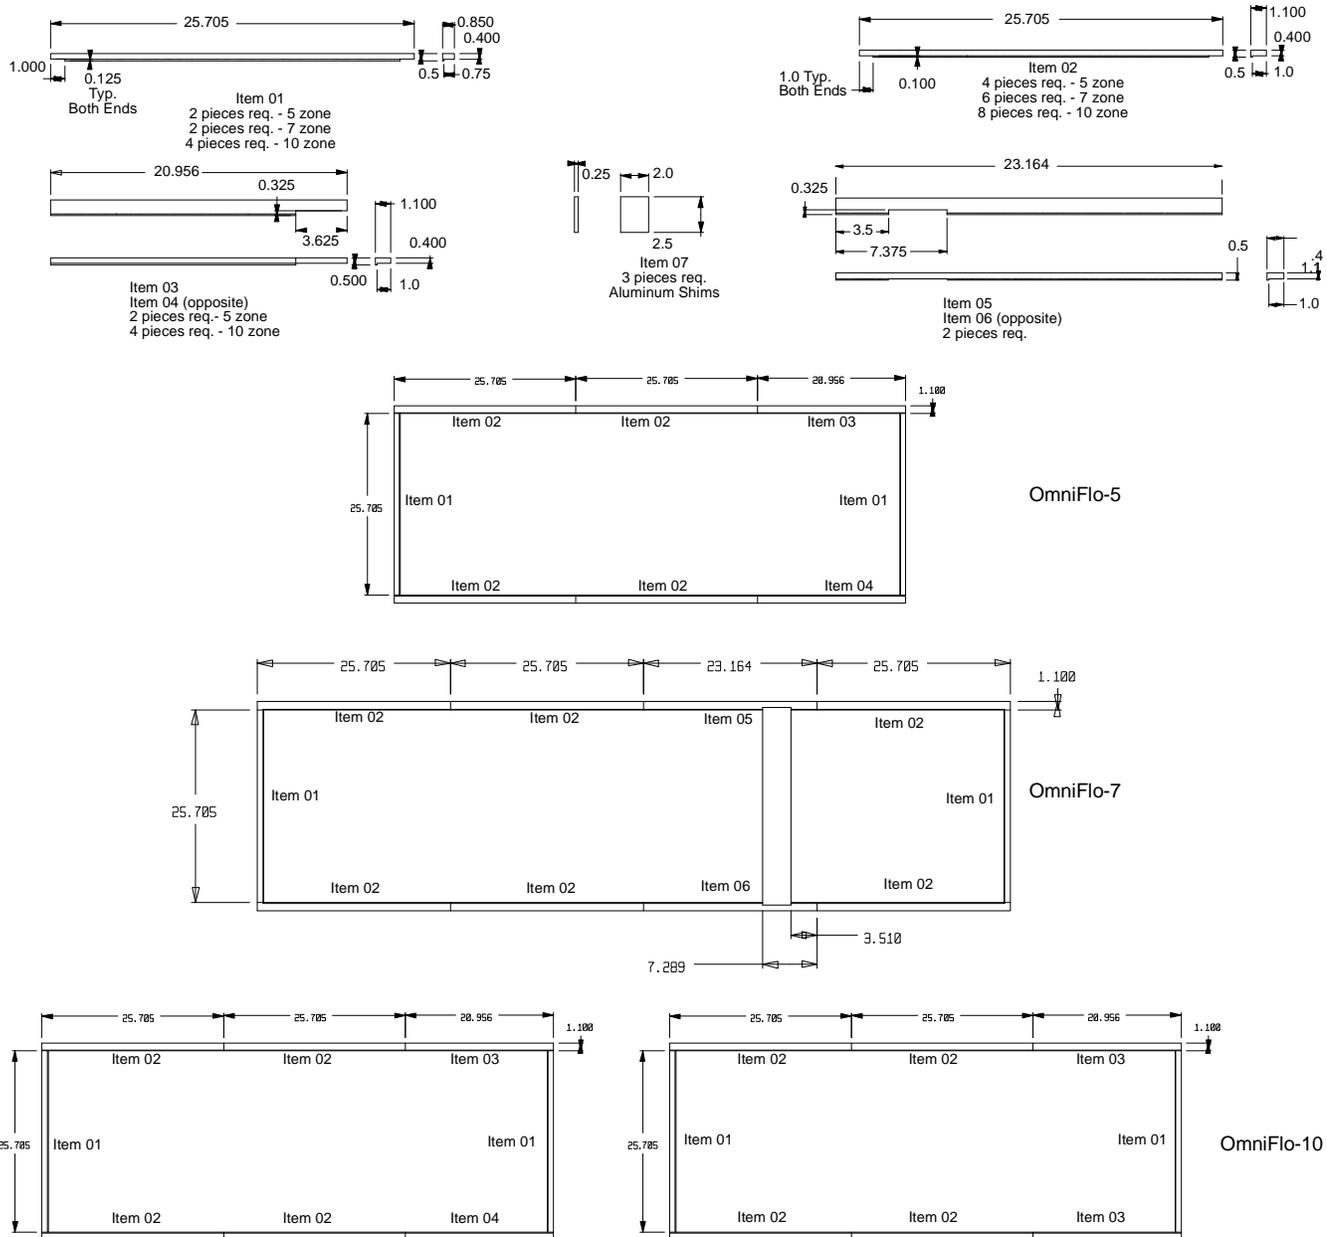

Figure 79: Gasket Replacement Fixture Assembly
- Using double-sided tape on the underside of the fixture, lay the Gasket Replacement Fixture pieces around the perimeter of the tunnel lip so it fits into place against the inner edge of the tunnel. Refer to Figure 79 to determine correct placement of the Gasket Replacement Fixture.
The OmniFlo™-5 kit has eight (8) pieces total; the OmniFlo™-10 uses two (2) of the OmniFlo™-5 kits, and so has 16 pieces total. Refer to Figure 79 for item placement.